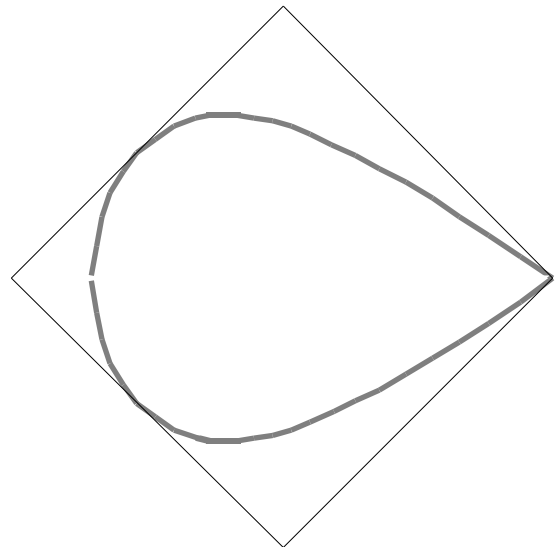

Figure 4—PostScript printer output
1. The `fPolyFrame` and `fPolyFill` fields of the `TPolyRec` record are self-explanatory. The `fPolyClose` flag is redundant with the `PolyClose` picture comment, but is included for the convenience of the LaserWriter driver. It is often misunderstood. It does **not** mean the polygon is being closed automatically, such as with the PostScript `closepath` operator; instead, it affects the shape of the smooth curve. Figure 4 shows the result for `fPolyClose = FALSE`; the start and end point of the polygon is distinguished. In the case of `fPolyClose = TRUE`, all vertices of the polygon are treated in the same manner, and the resulting curve resembles a circle (in this case).